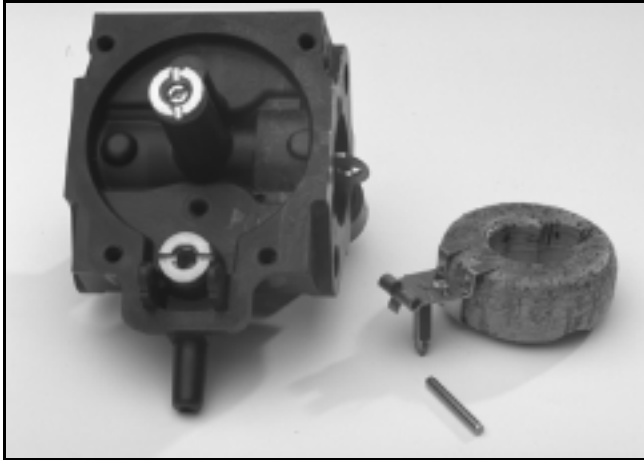

**Figure 24**
5. Remove the fuel filter from the fuel nozzle (see Figure 24).